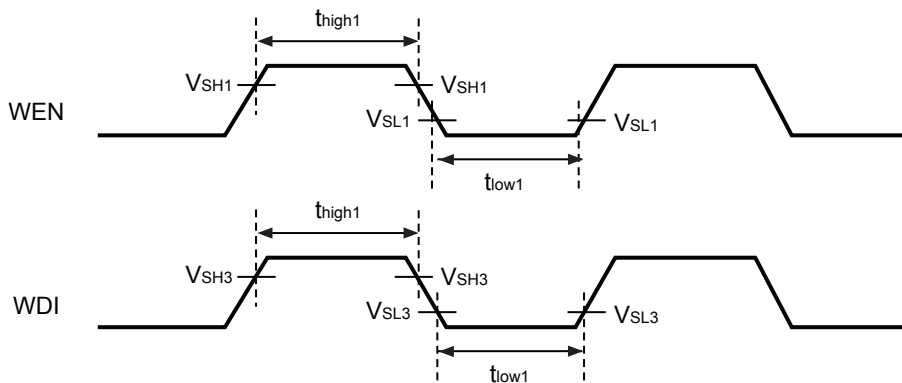

Figure 13
*2. The input pulse width "H" (t_{high1}) and the input pulse width "L" (t_{low1}) are defined as shown in **Figure 13**. Inputs to the WEN pin and the WDI pin should be greater than or equal to the min. value specified in "■ Electrical Characteristics".